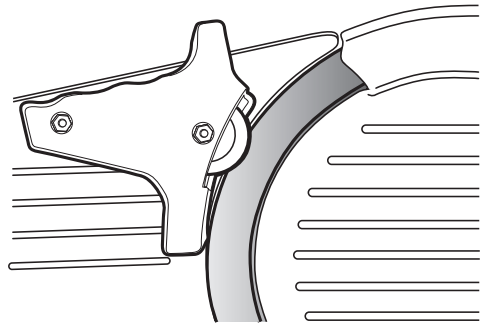

Figure 12. Sharpener in position to remove burr from front of blade edge.
12. Remount the sharpener on the thickness control plate as in Step 6 on page 10 and make certain its forward mounting pin is rotated down tightly to seat fully in its slot. The sharpening stone must now be in front of the blade (see Figure 12) but the stone should not at this point be touching the blade edge.